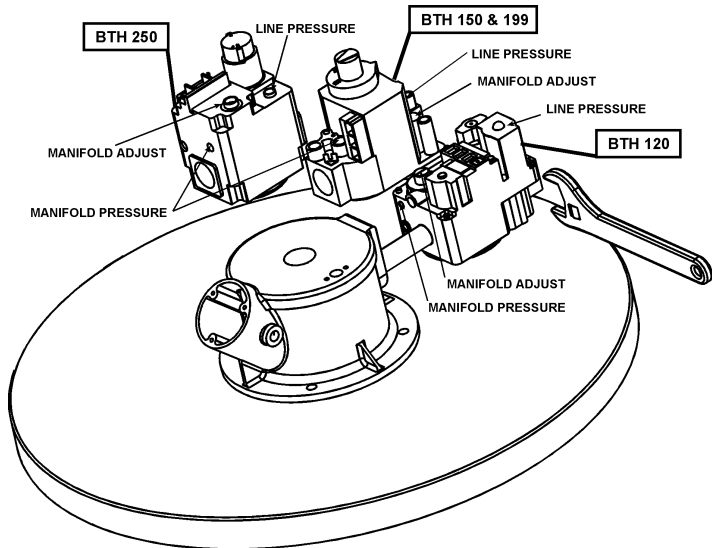

FIGURE 15
1. When connecting gas pipe to unit, apply wrench to flange only. Note: Do not use wrench on gas valve or gas bracket. See Figure 15.